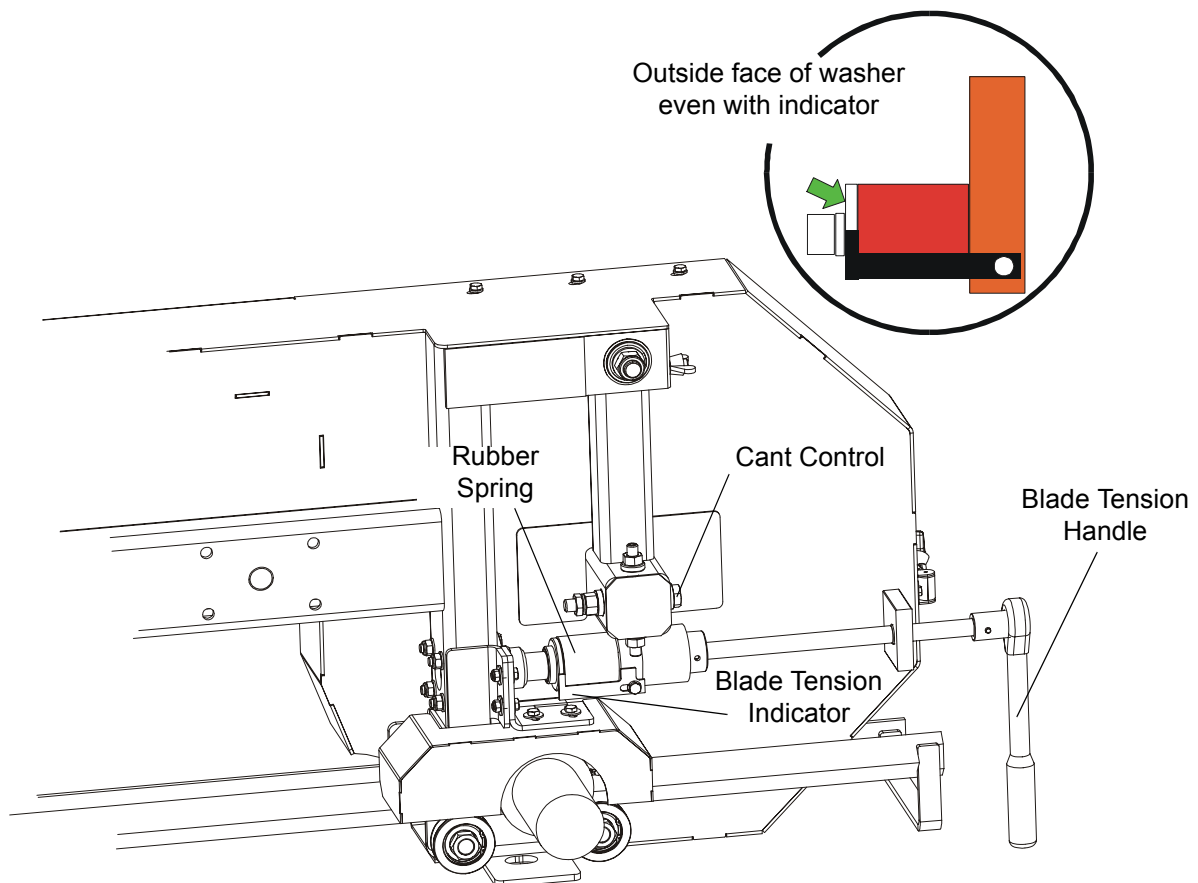

FIG. 3-4
See **Figure 3-4**. Turn the blade tension handle clockwise to compress the rubber spring and tension the blade. Check the blade tension occasionally when adjusting the cant control or while cutting. As the blade and belts heat up and stretch, the blade tension will change. Also, ambient temperature changes can cause tension to change. Adjust the tension handle as necessary so that the indicator is parallel to the blade guide arm.
5. Use the cant adjustment bolt, shown in **Figure 3-4** to adjust where the blade travels on the blade wheels.